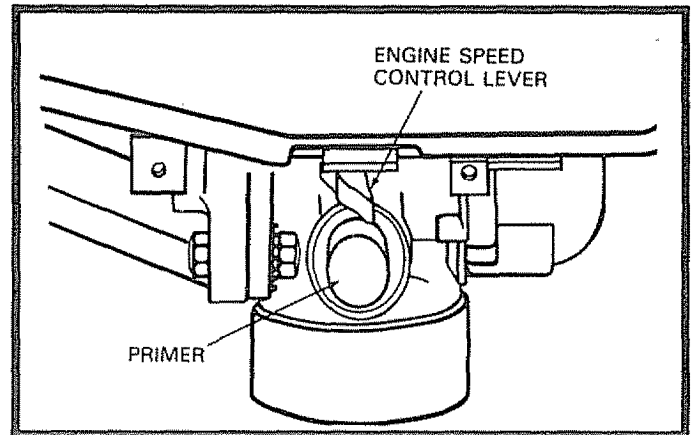

FIG. 9
The engine speed is controlled by a lever (red knob) located on the left side of the engine (See Fig. 9).
- Your lawn mower is equipped with an Operator Engine Control Bar which requires the operator to be positioned behind the Lawn Mower Handle to start and operate the lawn mower (See Fig. 9).
- Speeds 1, 2, and 3 are found when the Engine Speed Control (red) Lever is in "LOW" position (See Figs. 9 & 10).
- Speeds 4, 5 and 6 are found when the Engine Speed Control (red) Lever is in "HIGH" position (See Figs. 9 & 10).